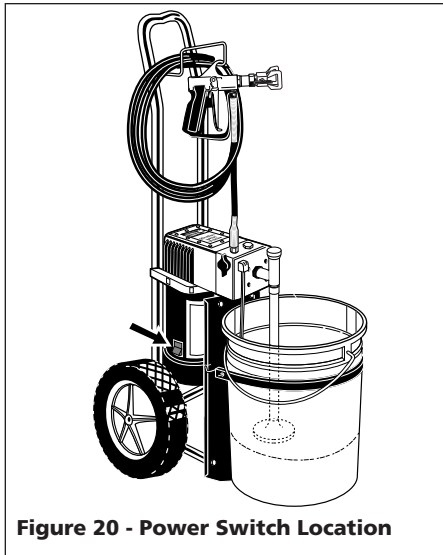

Figure 20 - Power Switch Location
3. Turn Power Switch to ON position (See Figure 20).